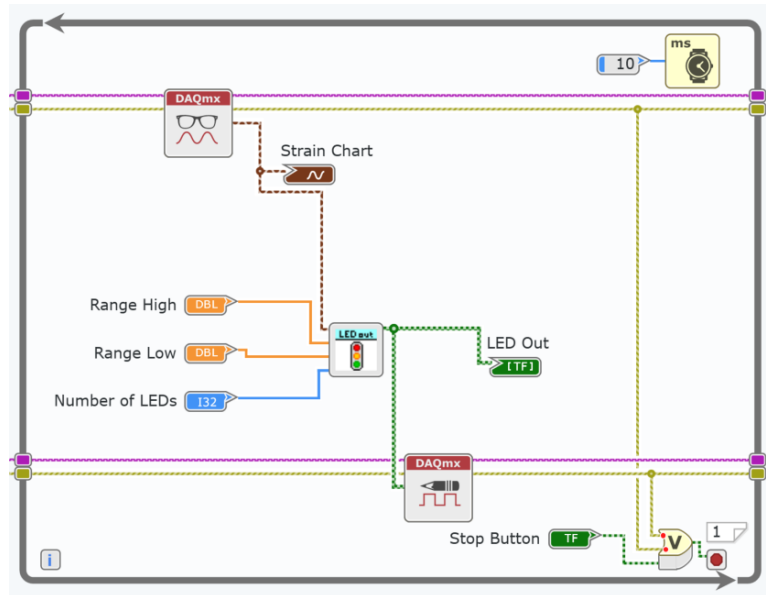

Figure 5-37 This subVI outputs a Boolean array that can then be output by the DAQmx Write.
22. Wire the call to the subVI like in Figure 5-37.